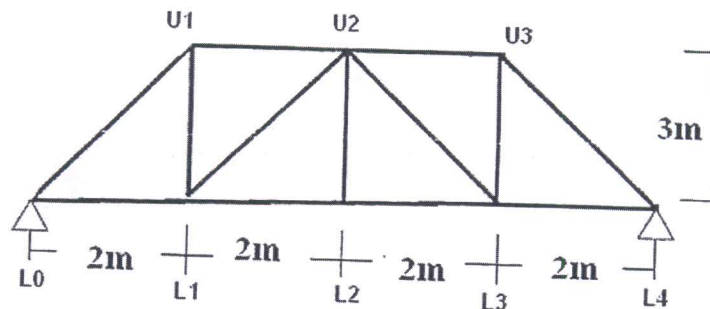

Fig. 9
- (b) Construct ILD for the forces in the members U_1L_1 , U_1L_0 , L_2L_3 and U_2L_3 for the truss shown in Fig. 9 : [8]